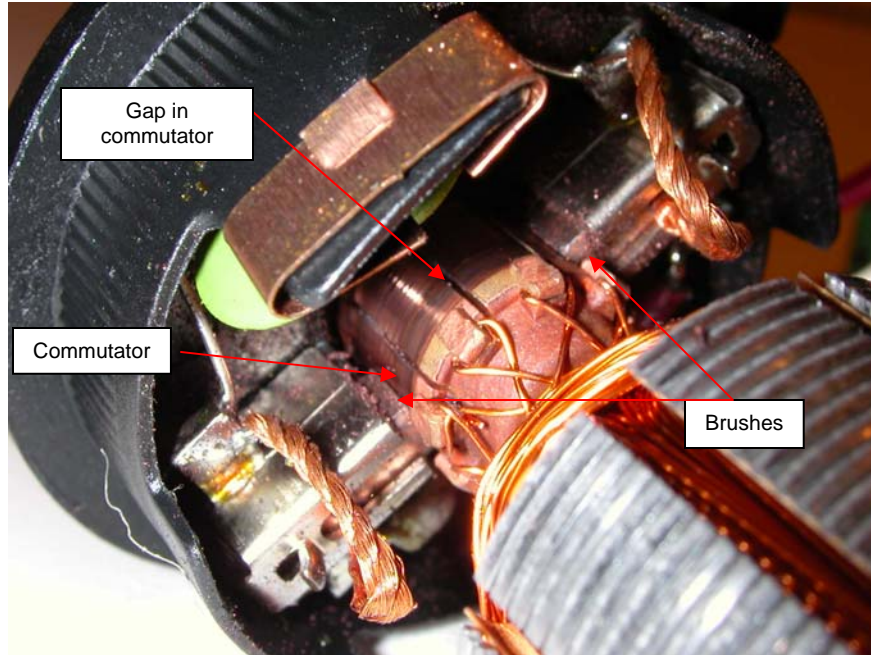

Fig. 11
11. Clean the commutator, gaps in the commutator, brushes and surrounding area with Q-tips and electrical spray cleaner. I gently pulled an X-Acto blade through the gaps in the commutator to remove residual debris there as well. Figure 11 shows these items during cleaning.